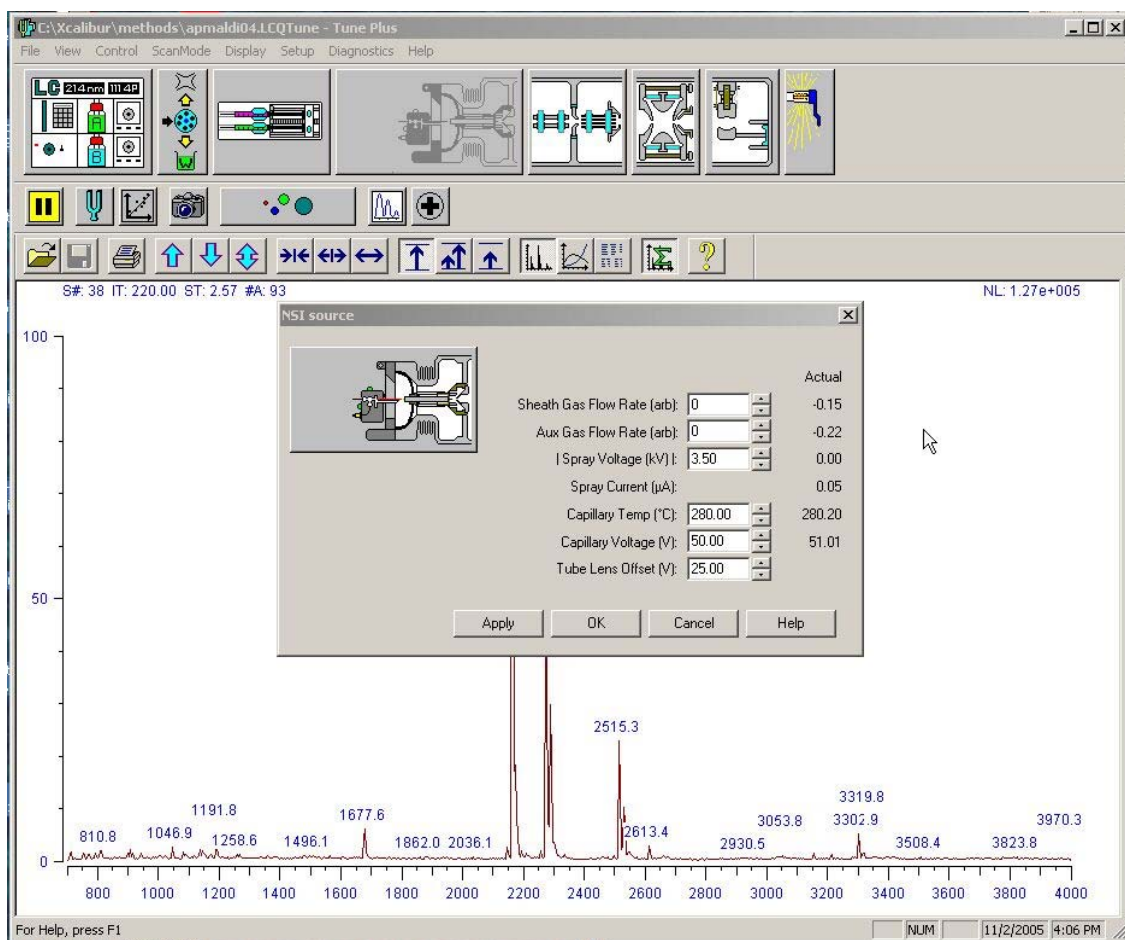

Fig. 7-16 Good parameters for the capillary HV (3-3.5 kV) and Capillary Temperature (200-280⁰ C) in the ion trap are shown above.
- **Capillary Temperature settings:** The heated capillary is used to evaporate the clusters formed during the MALDI process. The capillary temperature is typically set to 200°C to 280°C (Fig. 7-16).